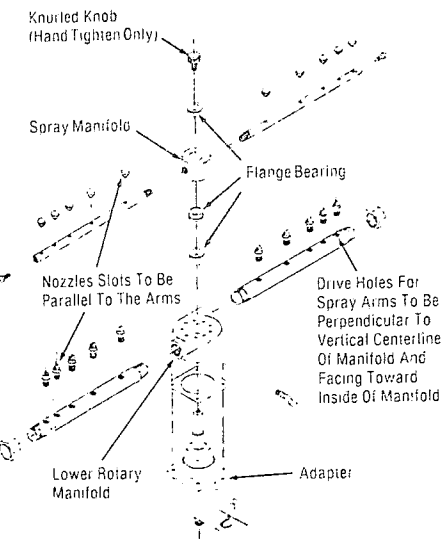

Figure 7-9. LOWER SPRAY ARMS.
1. Screw the nozzles into the lower rotary arms, making sure that the slots in the nozzles are parallel to the arms. Repeat with nozzles for upper spray arms. See Figure 7-9.